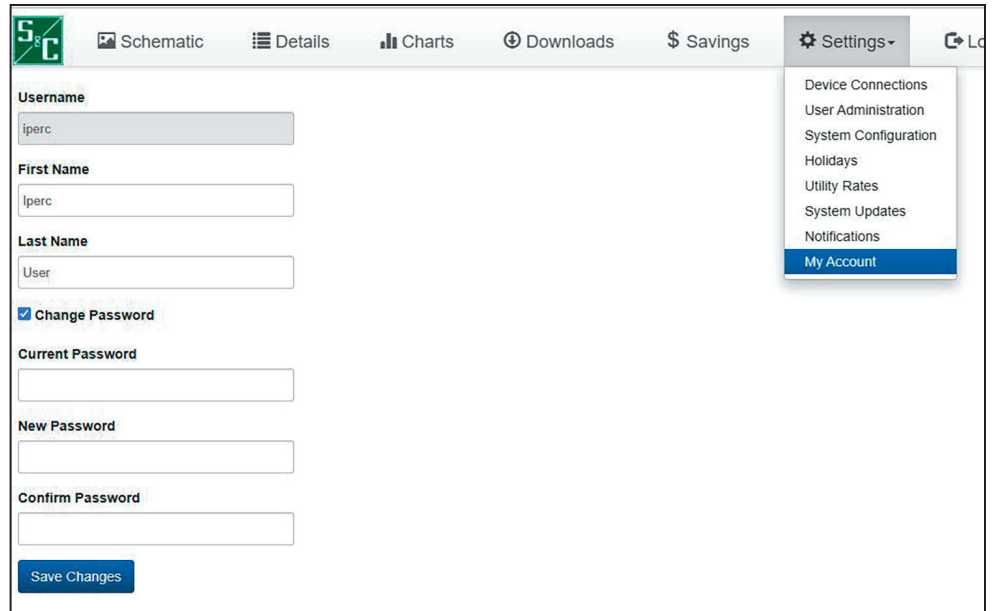

Figure 4. The Change Password screen.
**STEP 1.** In the top menu, click on the **Settings | My Account** options. The screen shown in Figure 4 on page 11 will open to allow the password change.